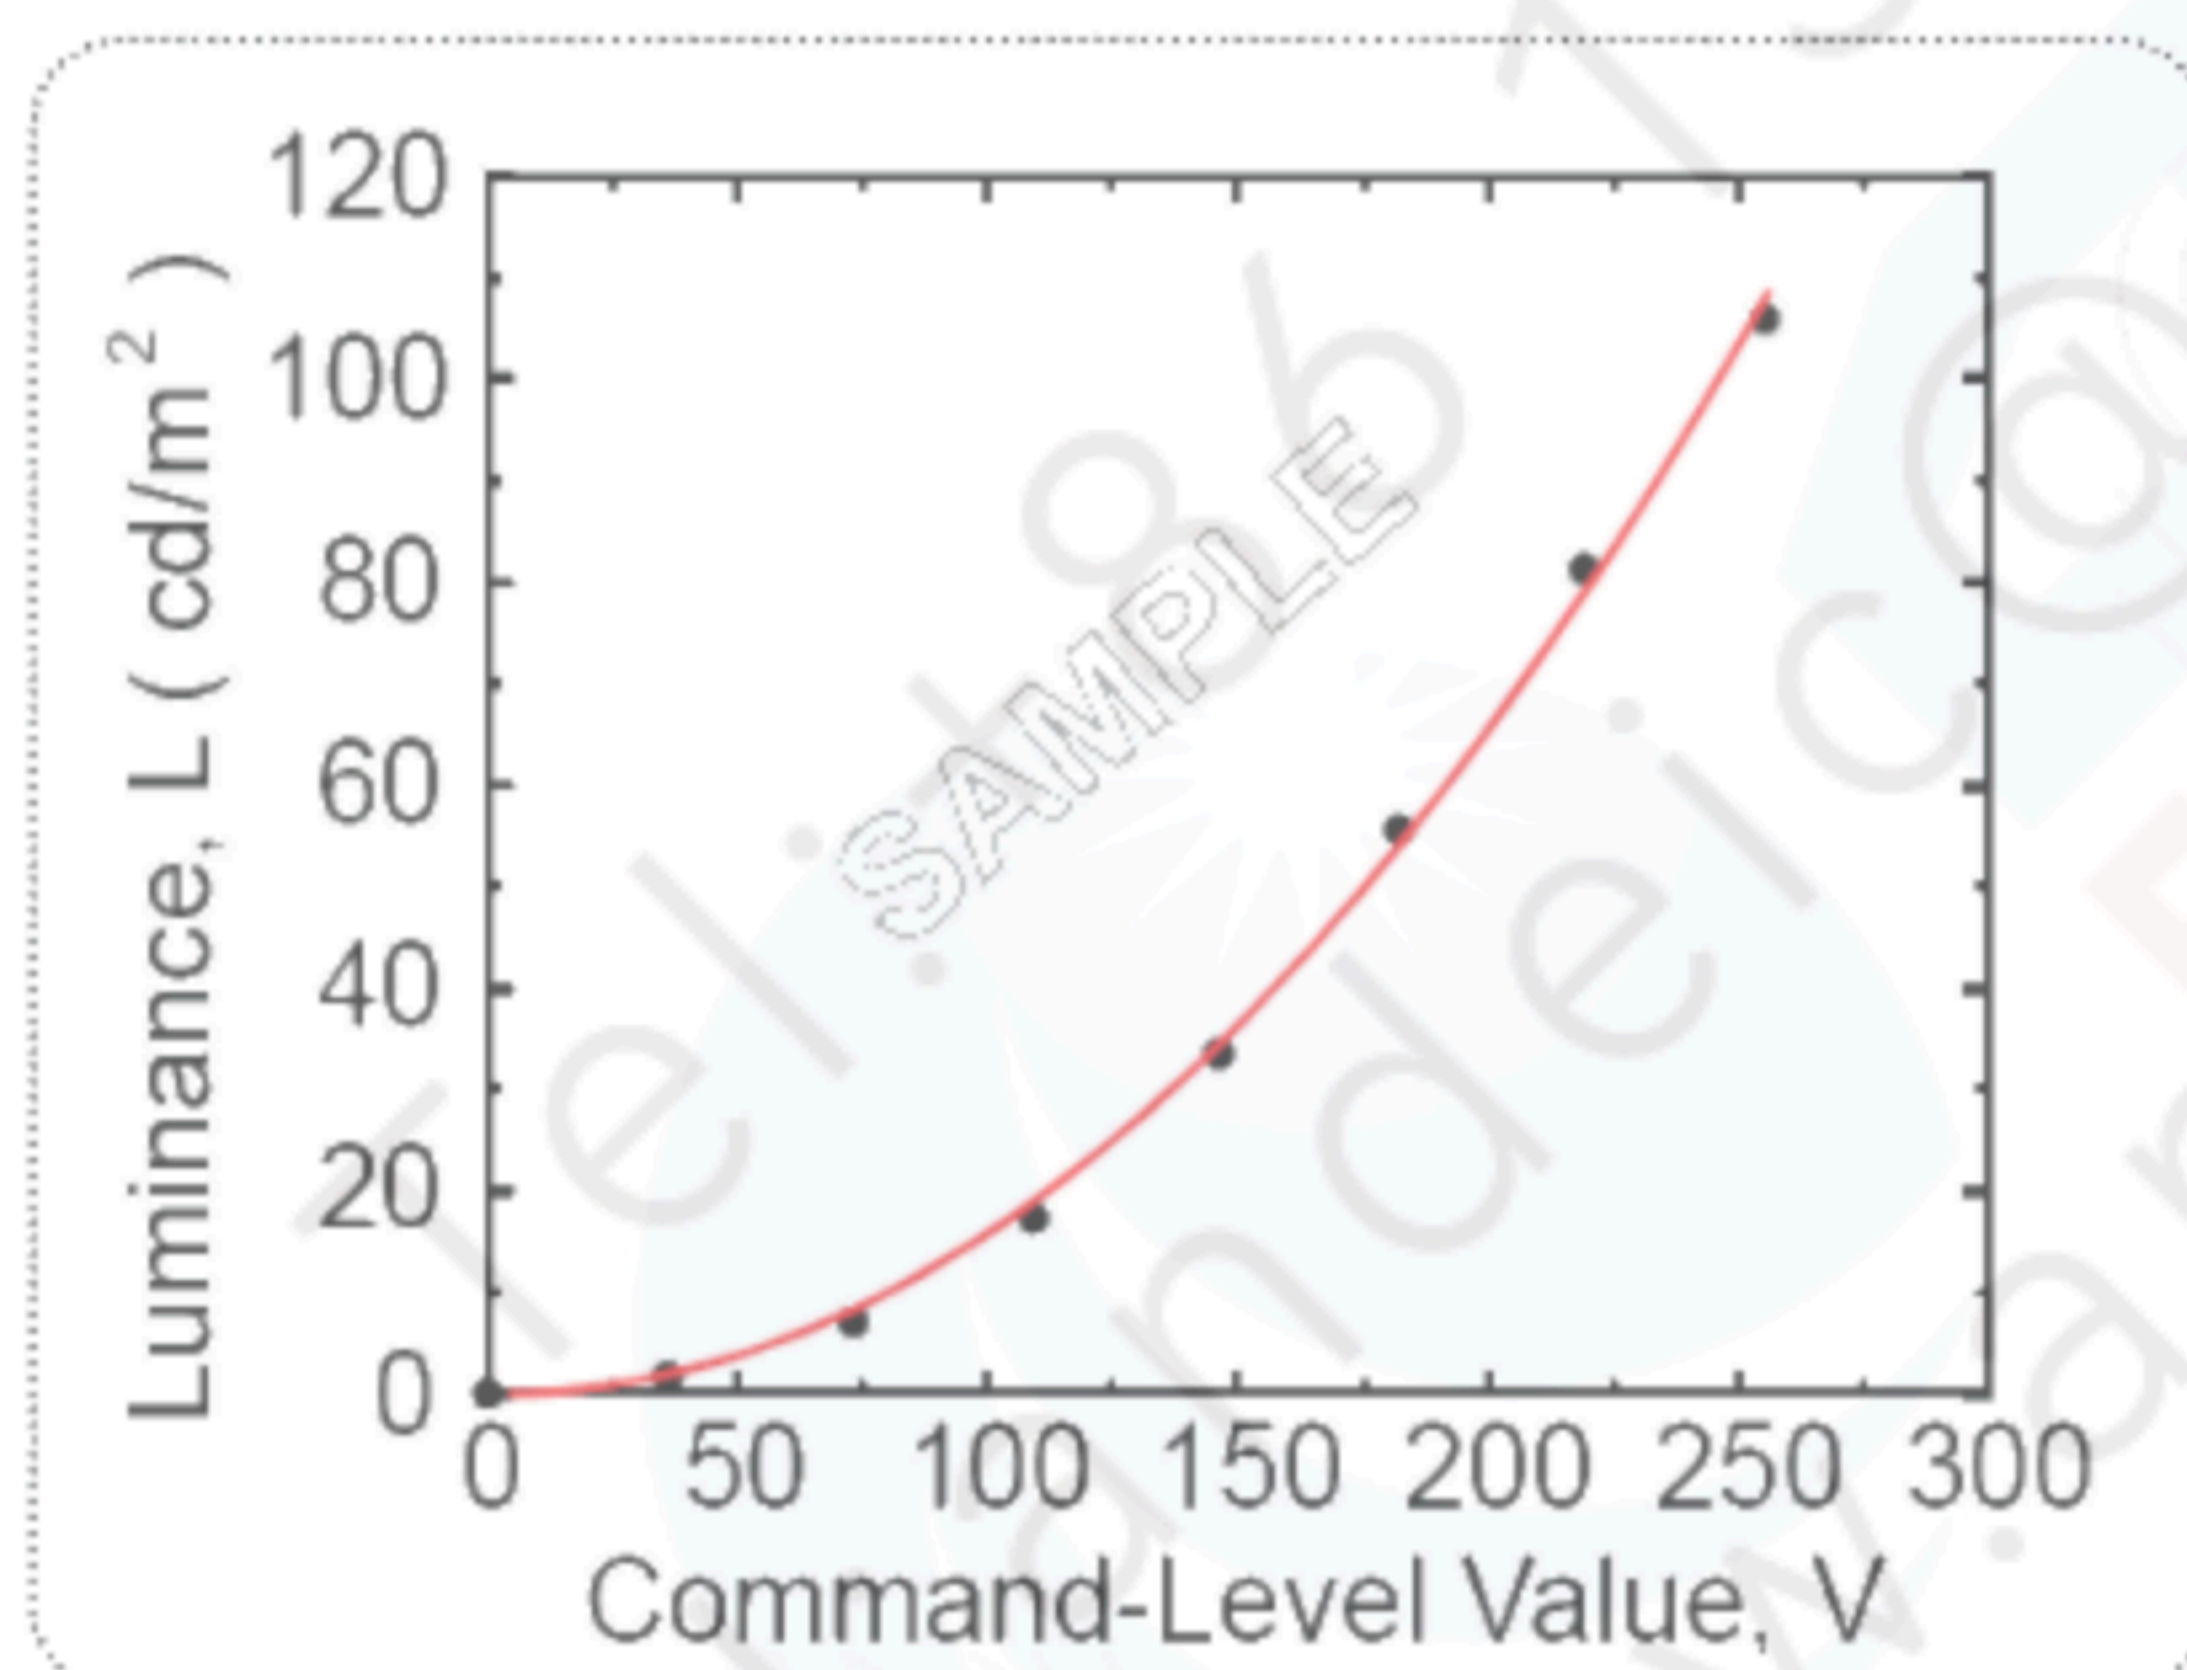
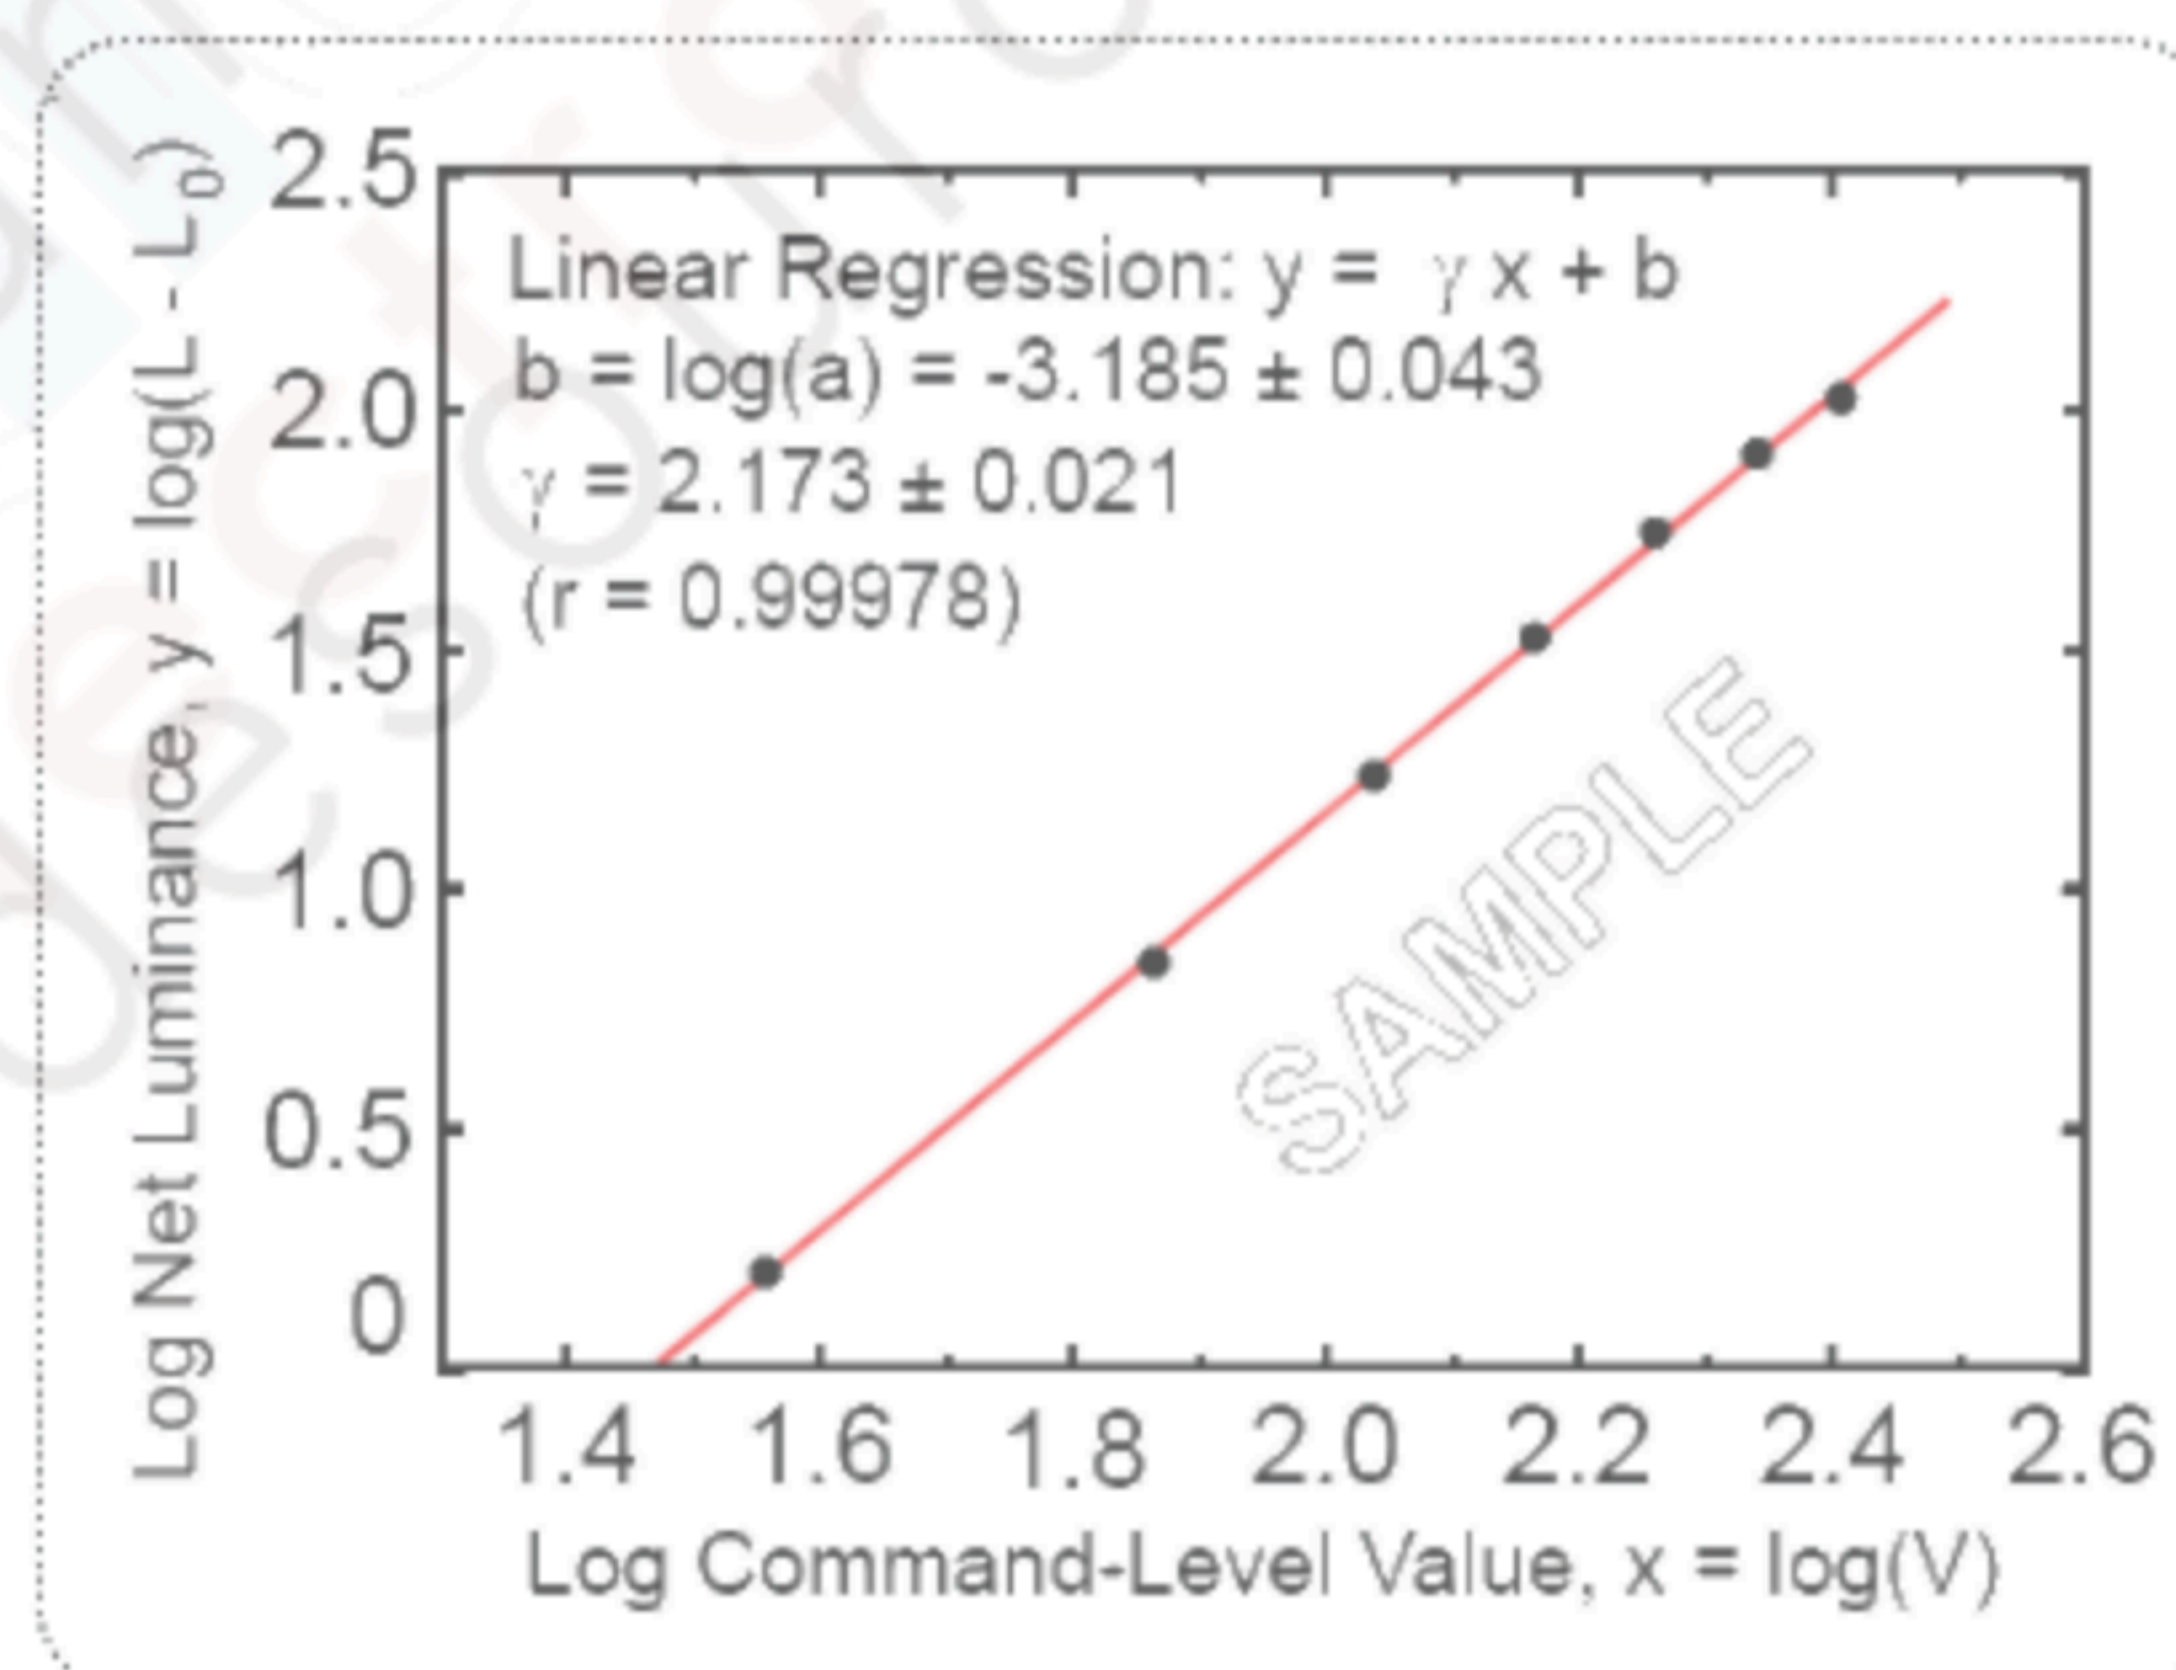

FIG.11 Sample Luminance vs. gray scale (using a 256 bit gray scale)
FIG.12 Sample Log-log plot of luminance vs. gray scale
7. **GSR** is the rate of gamma shift at up, down, left and right 60 degree viewing angle compare with center gamma. For more information see FIG.11 and FIG.12 **(By EZ Contrast)**
The GAMMA we calculate from the log-log representation (FIG.11)